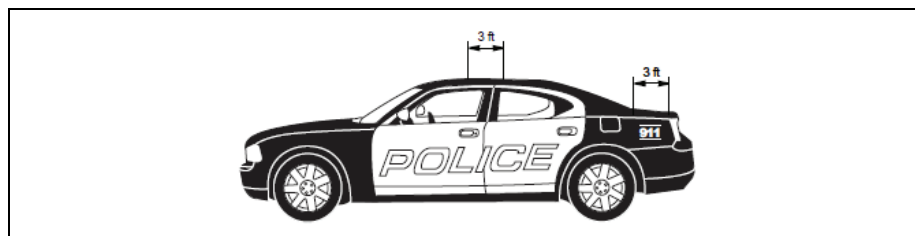

Figure 5: Multiple Antenna Separation
- d. Ensure that any transmitting radio antennas on this vehicle are separated from each other by at least 3 feet (92 cm). See Figure 5.